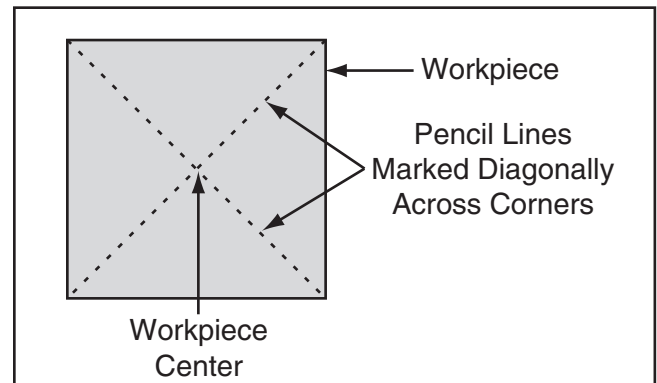

Figure 27. Workpiece marked diagonally to determine center.
1. Find center point of both ends of workpiece by drawing diagonal lines from corner to corner across ends (see **Figure 27**).